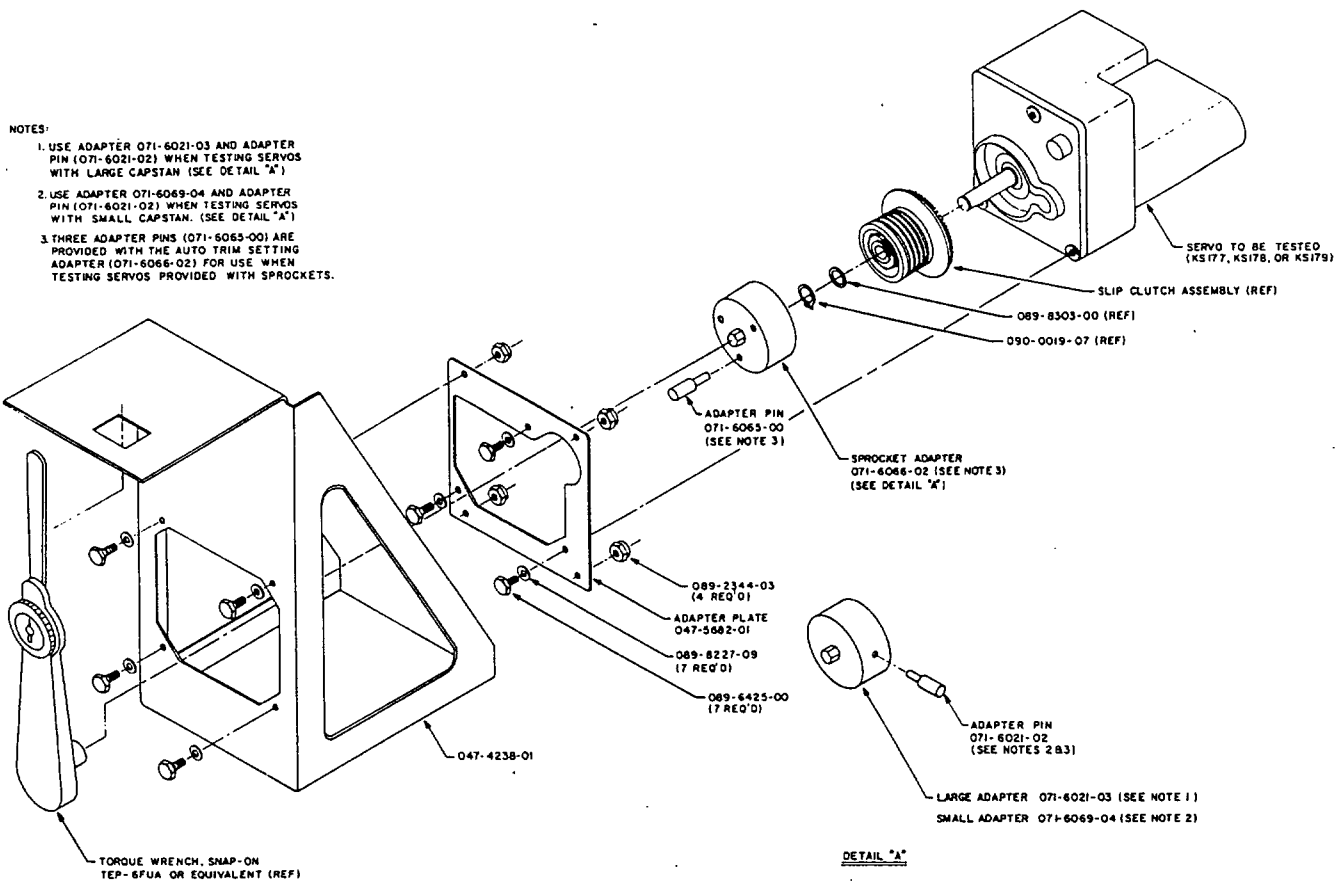

FIGURE 5-B SERVO SLIP CLUTCH ADJUSTMENT
- F. After wiring has been completed and the servos installed, verify the direction of rotation of the servo capstans as shown in Figure 5-A.